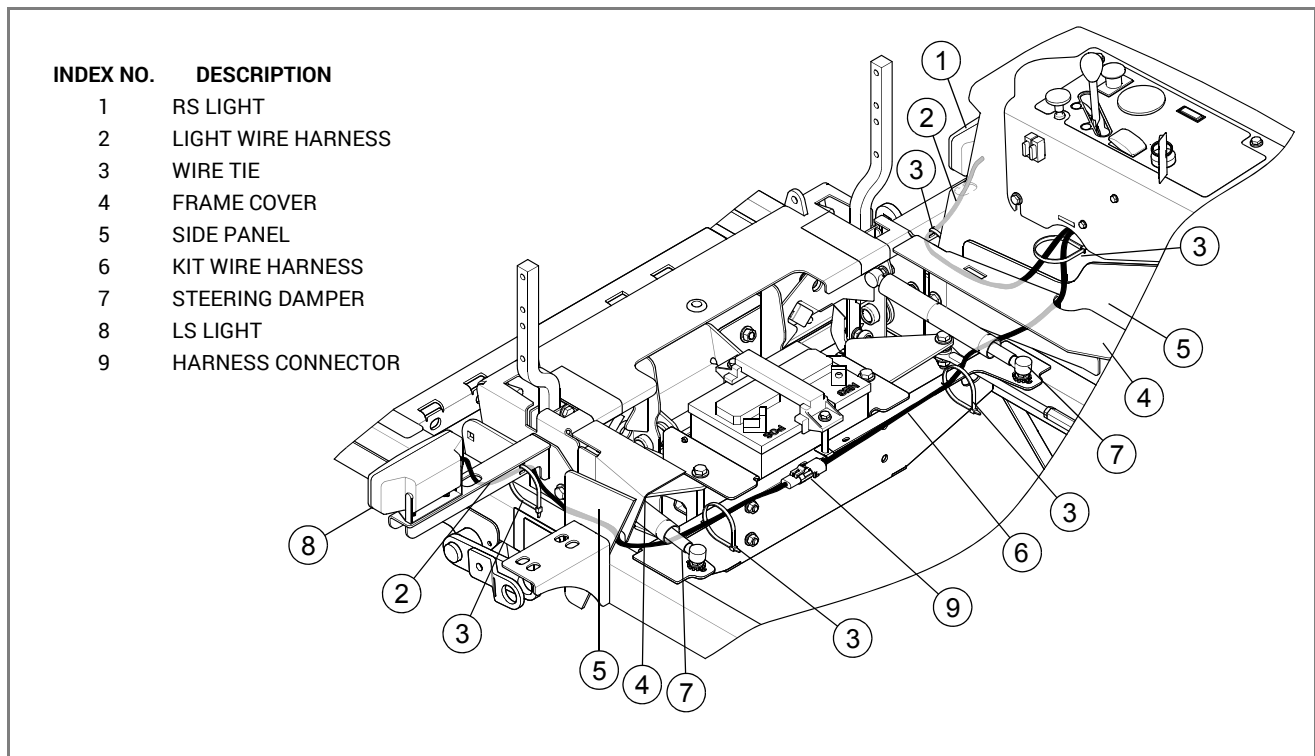

FIG. 6
12. Route the wire harness from the right side light, down through the hole in the light support, and between the frame cover and the side panel. Route the wire harness through the opening in the bottom of the control panel. FIG. 6
13. Route the kit wire harness from the inside area beneath the seat, under the right steering damper and up through the opening in the bottom of the control panel. FIG. 6
17. Route the wire harness from the left side light, down through the hole in the light support, and between the frame cover and the side panel. Route the wire harness under the left frame cover and under the steering damper. Plug the connector into the kit wire harness connector as shown. FIG. 6
19. Secure the wire harnesses with wire ties: one (1) on each light support, two (2) on the mower frame, and one (1) at the base of the control panel opening. Make sure the harnesses are not pinched and are away from moving parts.